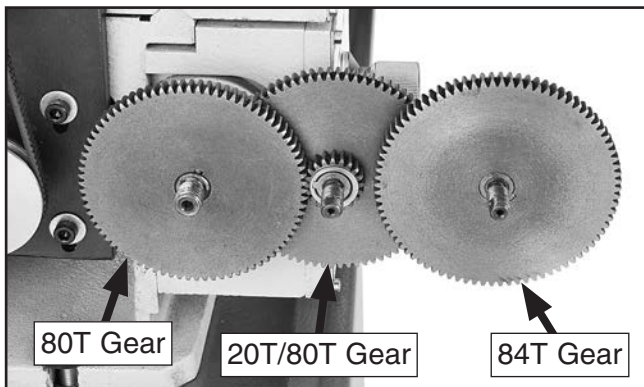

Figure 76. Gear removal identification.
- Slide 80T and 84T gears off shafts, then remove middle C/D (20T/80T) gear and shaft (see **Figure 76**).